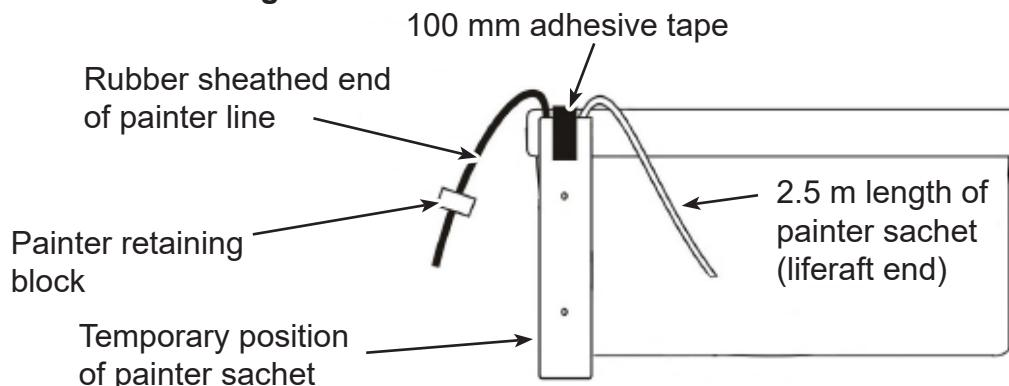

FIGURE 869
8.30 Make sure that 2.5 m (100") exits the painter sachet. Refer to **Figure 869**.
8.31 Temporarily attach the painter sachet to the rear of the lower half of the container using adhesive tape. Make sure that the open end of the painter sachet is at the edge of the container with the painter line cut-out. Refer to **Figure 869**.